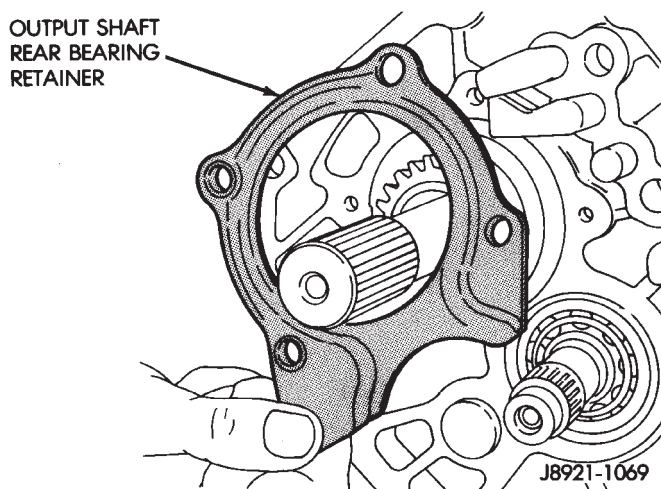

Fig. 39 Removing Output Shaft Rear Bearing Retainer
(20) Remove rear bearing retainer (Fig. 39).